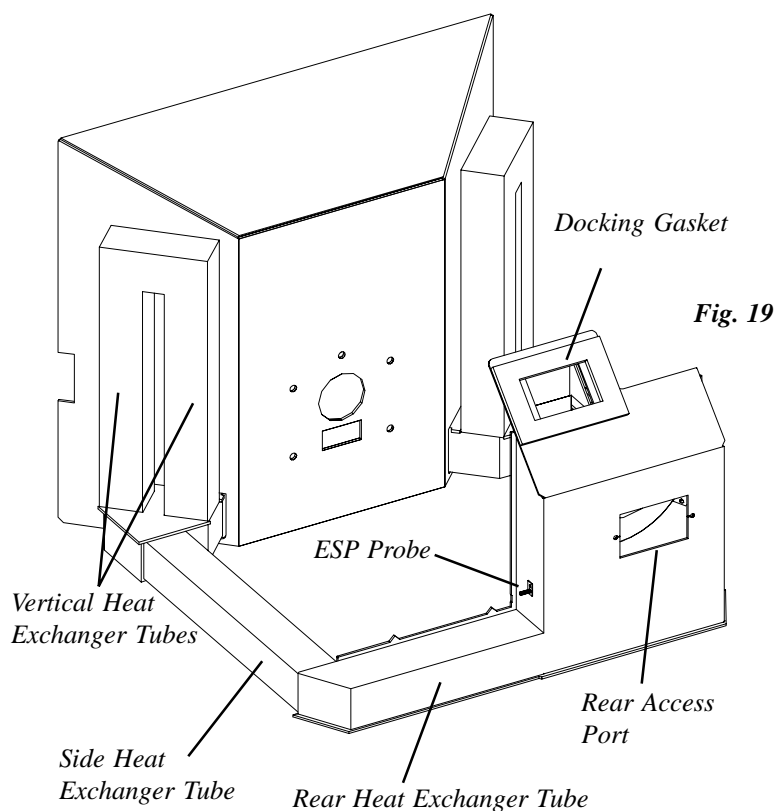

Fig. 19
* Clean ESP probe. This can be done by removing the probe or by reaching through the access port (Fig. 19). Inspection can be improved by removing the probe.
* Check the docking gasket to make sure it is in good condition (Fig 19).